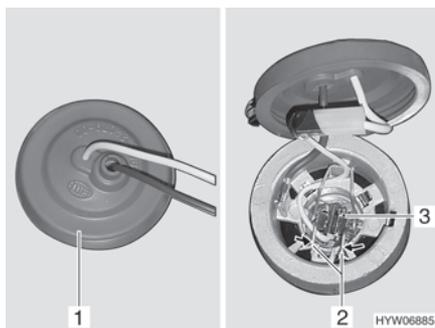

Fig. 218 Fog light
- Put your hand behind the fog light and remove rubber cap (Fig. 218,1) from lamp housing.
- Press metal clip (Fig. 218,2) together and release from holder.
- Remove bulb (Fig. 218,3) with cable from lamp housing.